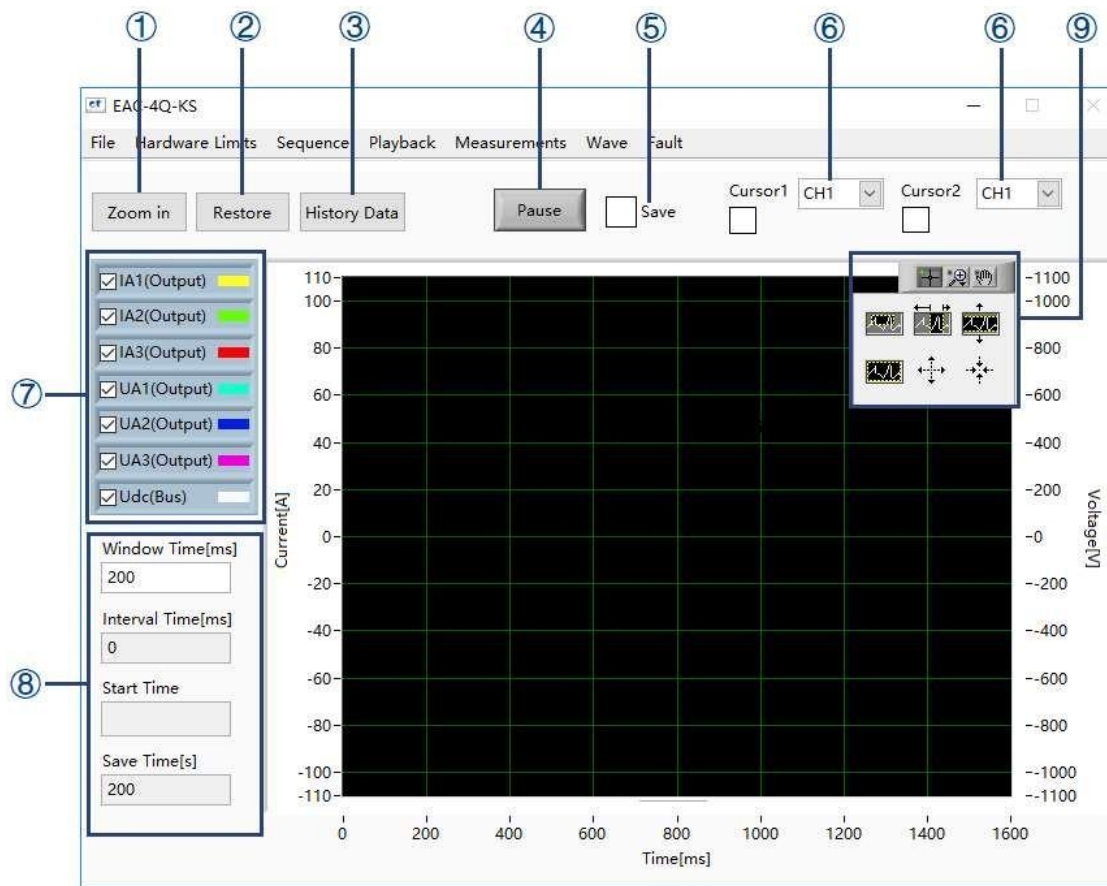

Figure 5-20 Waveform Panel
Click "waveform" to enter the panel (Figure 5-20). In the window of waveform browsing, the user can individually or simultaneously select the data of output voltage or output current (Figure 5-20⑦) and browse the waveform. In addition, the user can also set the window display time of the waveform data points, and observe the sampling time interval, start time, saved time and other parameters (Figure 5-20⑧).